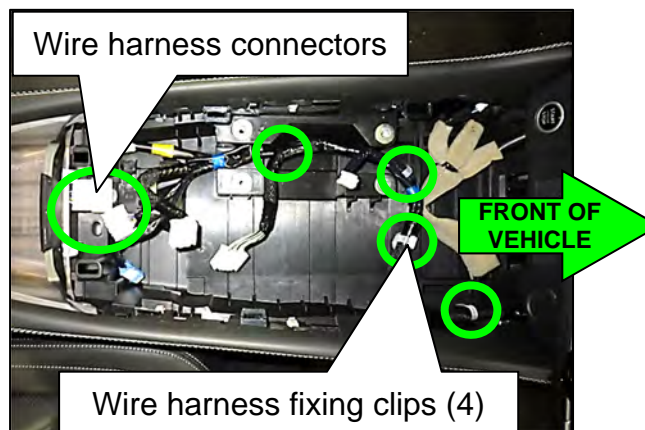

Figure 46
32. Disconnect the wire harness connectors, and then disengage the wire harness fixing clips (Figure 46).